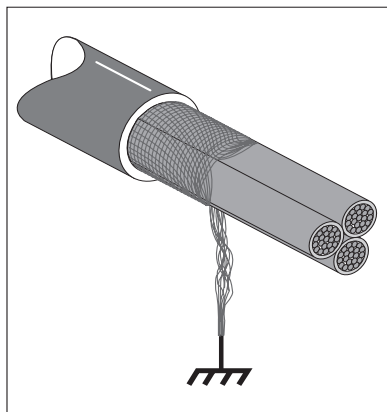

Fig. 30
- Conductors must be shielded (see Fig. 30):